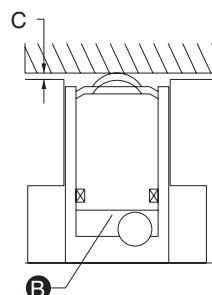

Fig.4
- Hydraulic version (fig. 4): The bearing module lifts the tool with the help of hydraulic pressure in the chamber (B). When the hydraulic pressure is removed, the tool rests on the press bed.